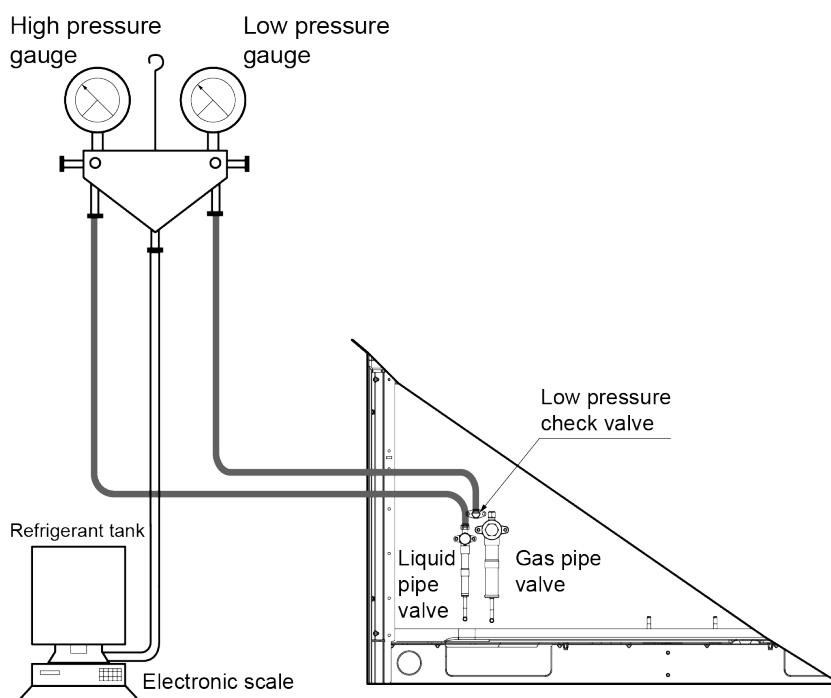

Fig.3.7.3
(2) Start-up charging of refrigerant.
Step 1: Close the refrigerant tank valve and reconnect the pipe of pressure gauge. Remove the pipe of low pressure gauge from the check port of gas pipe valve and connect it to the low pressure check valve (as shown in the Fig.3.7.3).